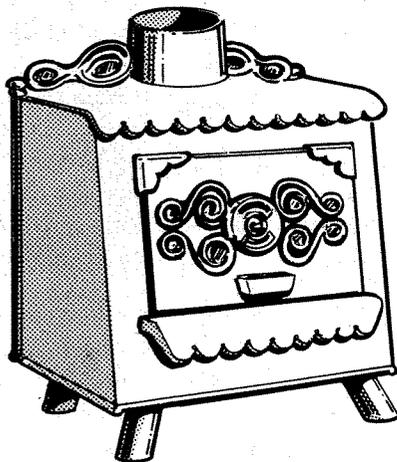

Fig. 48. Earth Stove Model 101.
- 26. **Roy F. Smith, Licensor** (distributor), P.O. Box 8, 19440 S.W. Boones Ferry Rd., Tualatin, OR 97062. In the Earth Stove (Fig. 48 and Table 5), both primary and secondary air are preheated, the secondary air through small draft tubes. Both are controlled by thermostatically operated draft. The Earth Stove is ICBO-listed. The door is fitted with an original ceramic motif.